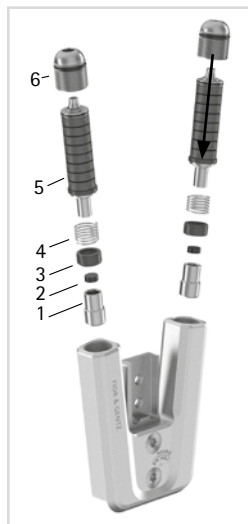
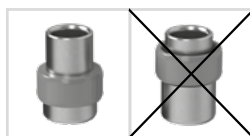

Fig. 18
Fig. 19
- 1 Assemble the stop damper/O-ring damper (2) and the sliding bushing (3) with the plunger (1; fig. 18). Make sure that the sliding bushing is correctly positioned on the plunger (fig. 19).
- 2 Put the coil spring (4) on top.
- 3 Insert the plunger (1) including the assembled system components (2, 3, 4) in the spring duct.
- 4 Stick the screw unit (6) onto the spring unit (5).
- 5 Screw the sub-assembly for dorsiflexion into the anterior spring duct until the required alignment of the orthosis is achieved. The O-ring must no longer be visible. The coil spring (4) must be completely compressed.
- 6 Screw the sub-assembly for plantar flexion into the posterior spring duct until it touches the system stirrup. The O-ring must no longer be visible. The coil spring (4) must be completely compressed. You will feel a slightly increased turning resistance. Do not preload the spring units (5).
- 1 Assemble the stop damper/O-ring damper (6) and the sliding bushing (7) with the plunger (5; fig. 20). Make sure that the sliding bushing is correctly positioned on the plunger (fig. 19).
- 2 Put the coil spring (8) on top.
- 3 Insert the plunger (5) including the assembled system components (6, 7, 8) in the spring duct.